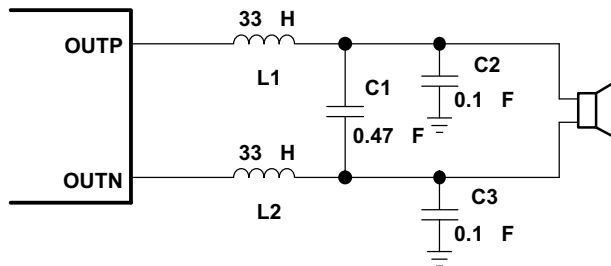
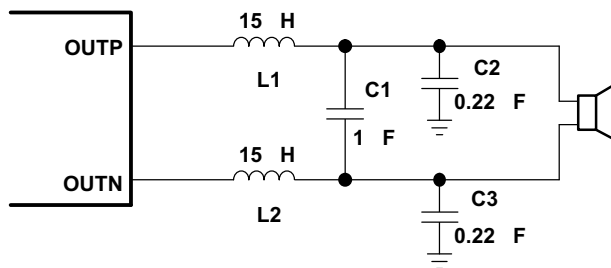

Figure 25. Typical LC Output Filter, Cutoff Frequency of 27 kHz, Speaker Impedance = 8 Ω
Figure 26. Typical LC Output Filter, Cutoff Frequency of 27 kHz, Speaker Impedance = 4 Ω
Using the LC filter in Figure 25, the TPA3100D2 EMI EVM passed the FCC Part 15 Class B radiated emissions with 21 inch speaker wires. Quasi-peak measurements were taken for 4 configurations, and the TPA3100D2 EMI EVM passed with at least a 5.6-dB margin. A plot of the peak measurement for the horizontal rear configuration is shown in Figure 28.
- Output filter—The ferrite EMI filter (Figure 27) should be placed as close to the output terminals as possible for the best EMI performance. The LC filter (Figure 25 and Figure 26) should be placed close to the outputs. The capacitors used in both the ferrite and LC filters should be grounded to power ground. If both filters are used, the LC filter should be placed first, following the outputs.